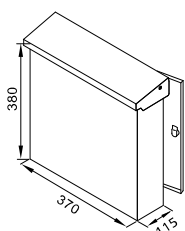

Fig. 6. BOX 2, BOX 3 letter box.
- **BOX 2, BOX 3** - dimensions 370 x 380 x 115 [mm] - Fig. 6;